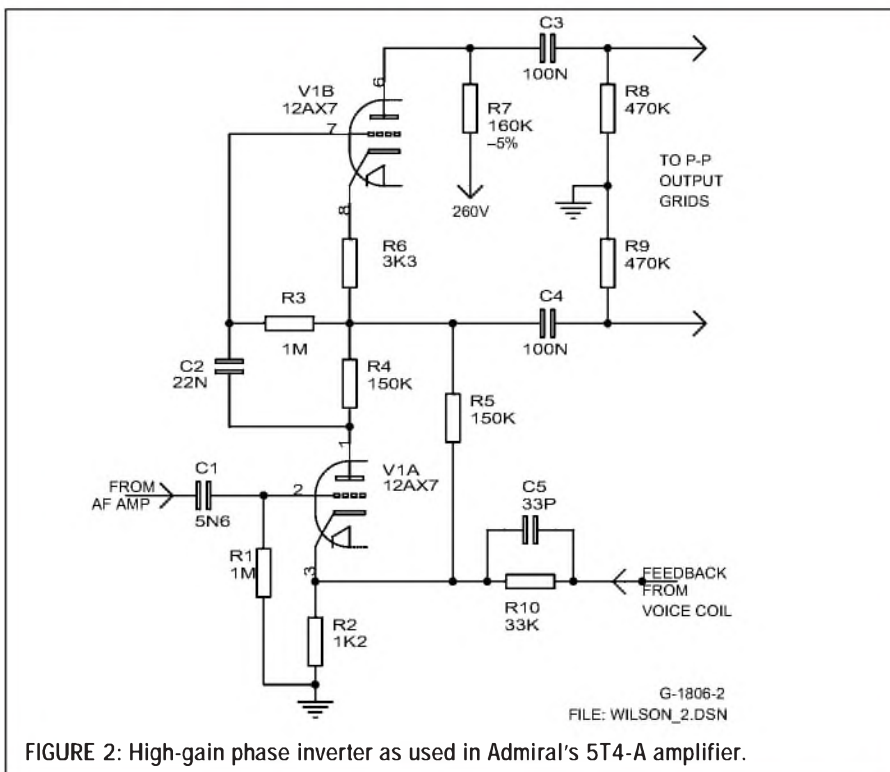

FIGURE 2: High-gain phase inverter as used in Admiral's 5T4-A amplifier.
*Figure 2* is the circuit—including schematic layout—as used in Admiral's 5T4-A amplifier chassis. Gain is around 200. The circuit is further stabilized and its response widened by applying negative feedback to V1-a's cathode from the output transformer's secondary. ❖